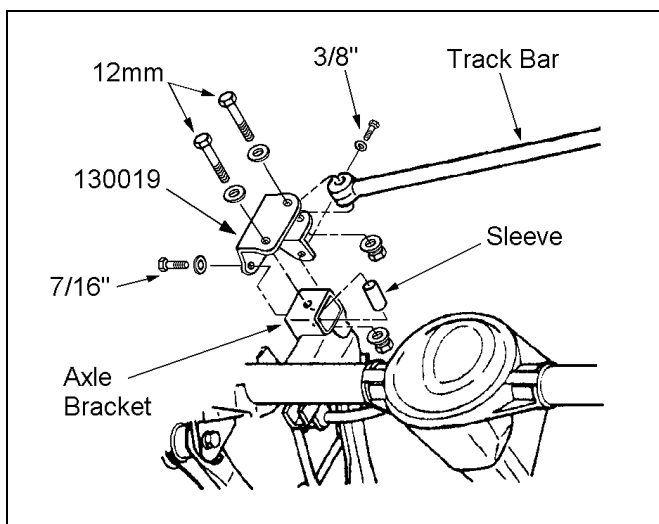

Figure 13
- 1) ☒ Place track bar bracket 130019 on top of the axle bracket as shown in figure 13. To properly align the bracket, insert a 12mm bolt from kit 860072 through both brackets.
- 3) ☒ Reinstall the track bar bracket and attach it to the axle with the sleeve and hardware from kit 860072. See Figure 13. Tighten to specifications.